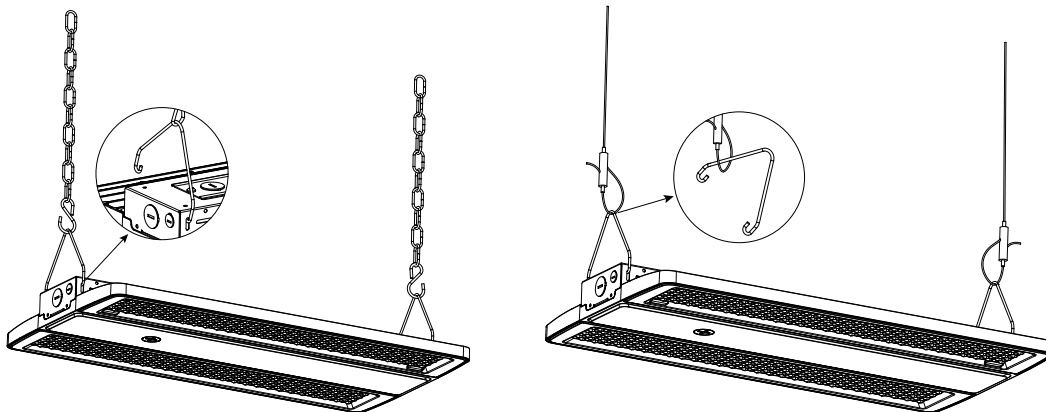

Figure 2
Step1. Hook up the chain; (Figure 2)
Step2. Connect the chain with fixture; (Figure 2)
Step3. Fix the chain on the rail, adjust the chain length as per need; (Figure 2)